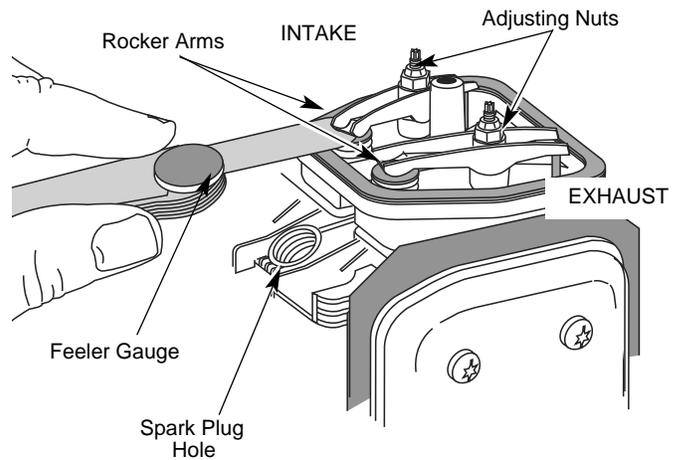

Fig. 54
¥ The piston is at the top of its travel while looking in the spark plug hole (Fig. 54)
7. Slide the feeler gauge between the rocker arm and the valve return spring. Measure the clearance between the valve stem and rocker arm (Fig. 54). Measure both the intake and exhaust valves.
The recommended clearance for both intake and exhaust is .003 in. to .006 in. (.076 mm to 0.152 mm). Use a standard automotive .005 in. (0.127 mm) feeler gauge. The feeler gauge should slide between the rocker arm and valve stem with a slight amount of resistance, without binding. See Figures 54 and 55.
- a. Turn the adjusting nut using a 5/16 inch (8 mm) wrench or nut driver (Fig. 54).